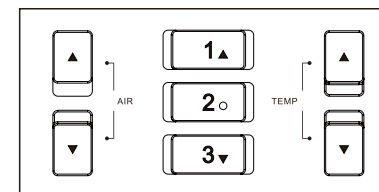

FIG. 1-4
1. Adjust the air volume: Press air "▲" or "▼" key (see FIG 1-4). Long press for quickly adjusting. Stop pressing the key for 3 seconds, it will save the setting automatically.